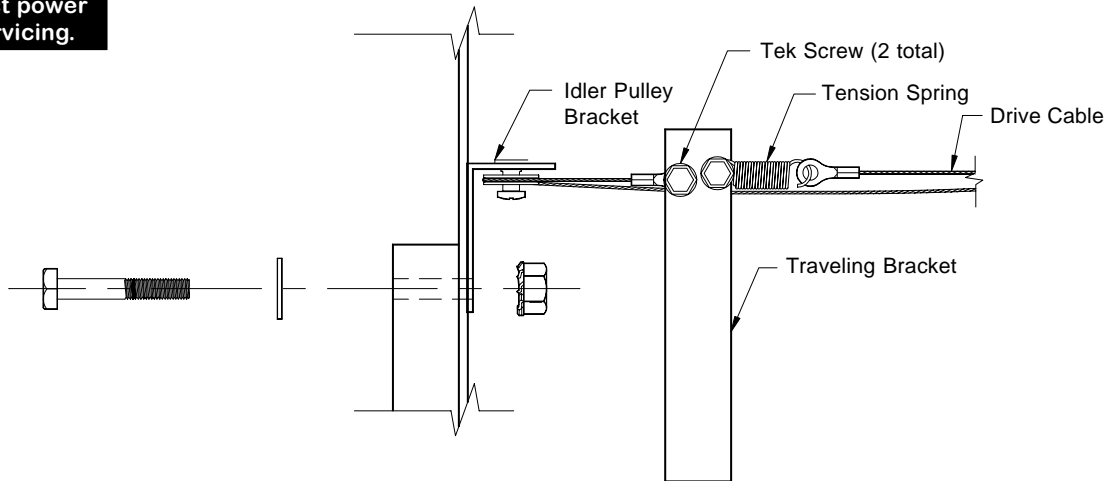

Figure 1
- 3) Remove the drive cable and tension spring from the traveling bracket and discard. Also remove and discard the idler pulley bracket with pulley. Save the mounting bolts and Tek screws. **See Figure 1.**